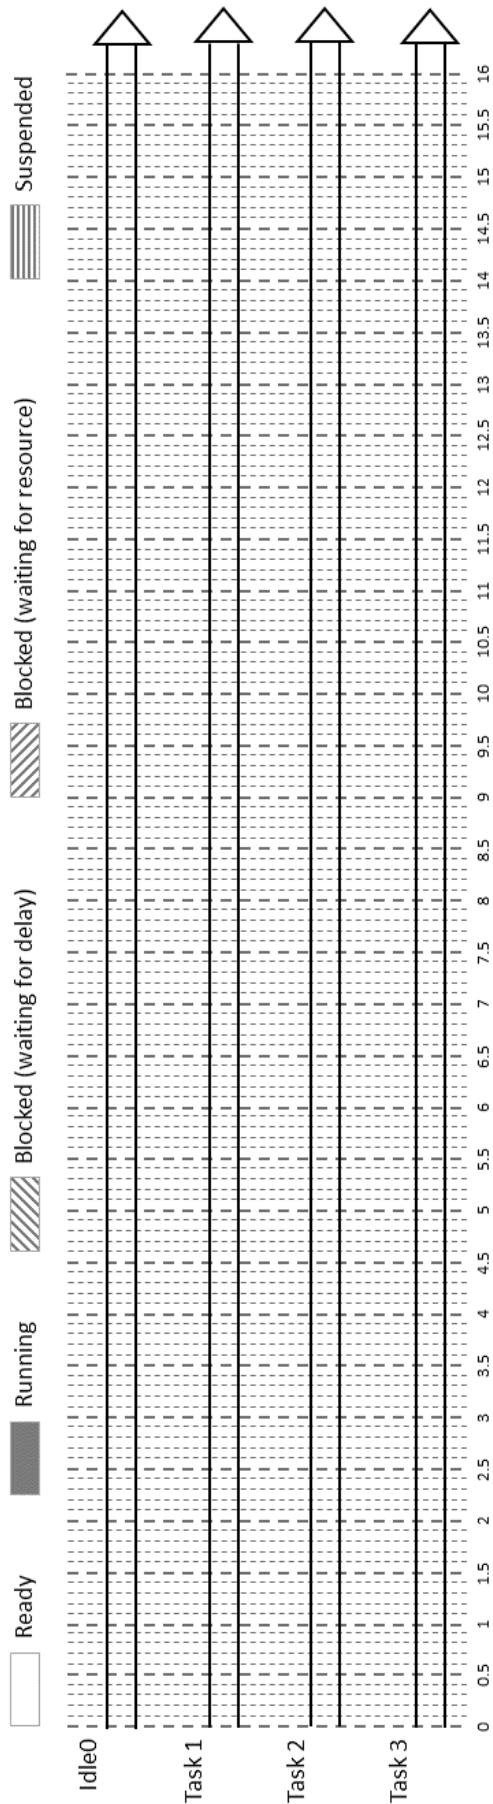

FIGURE 2.3 – Message queue with timeout and 3 tasks.
- Trace in the figure 2.3 the behavior of the 3 tasks until 160 ticks.